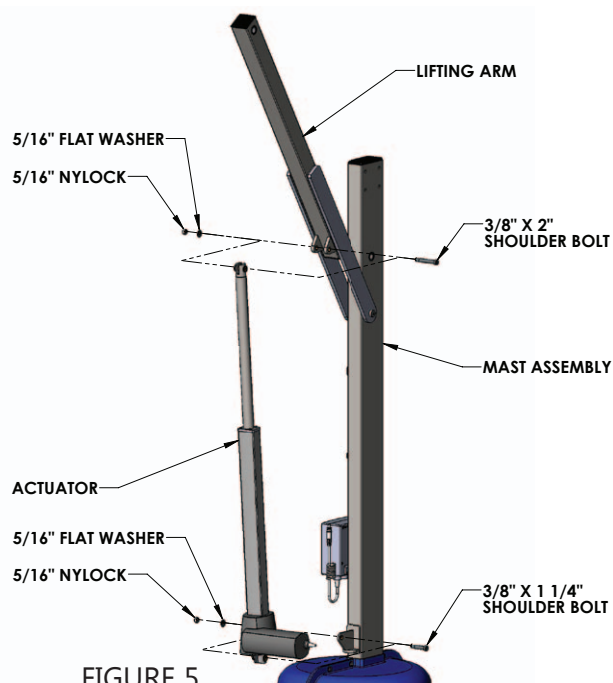

FIGURE 5
**4.** After the lifting arm is secured to the mast, attach the actuator to the mast and the lifting arm with the 3/8 inch shoulder bolts and 5/16 inch nylocks and flat washers as shown in FIGURE 5. Make sure the actuator head faces the opposite direction of the control box. If rotated the other way, the actuator head might hit the mast.